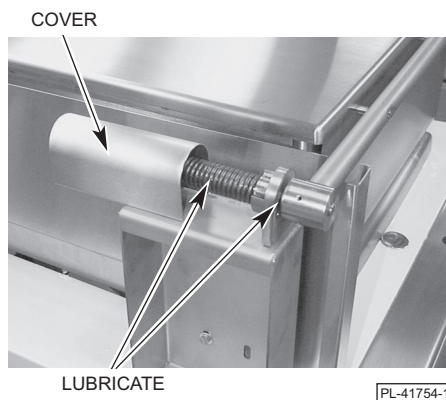

Fig. 9
2. Take the cover off by prying and lifting up (Fig. 9).